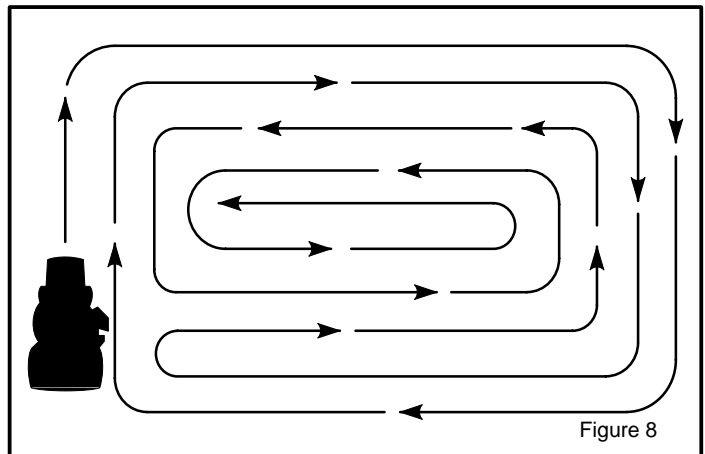

Figure 8
8. When you mow large areas, start by turning to the right so that the cut grass will discharge away from shrubs, fences, driveways, etc. After one or two rounds, mow in the opposite direction making left turns until finished (Figure 8).